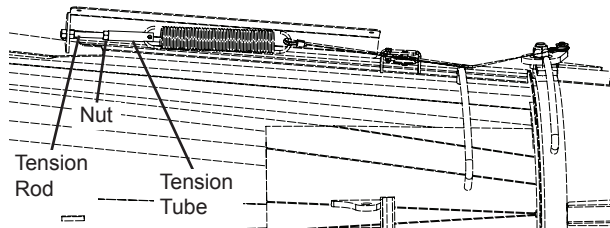

Figure 162
4. Loosen the nuts on the tension rod during the adjustment (Figure 162).
5. Use a pair of vice grips or other suitable tool to hold the tension tube and turn the tension rod clockwise to increase the tension or counterclockwise to reduce the tension (Figure 162).